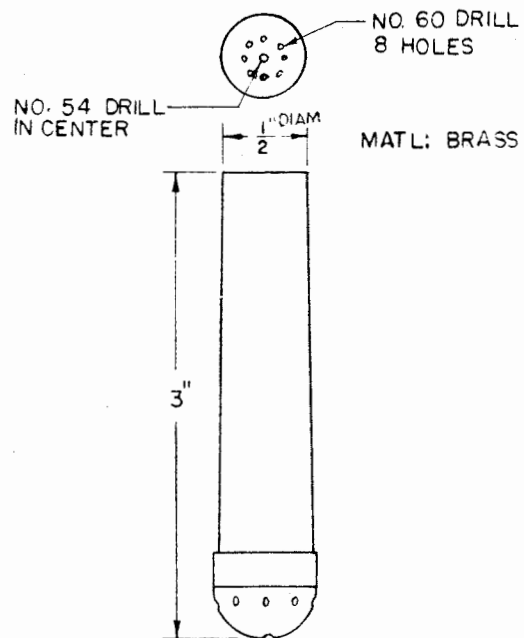

Figure 11-19. Special Torch Tip for Bending Waveguide
d. HOT BENDS.— All waveguide bends that have been described are made with the guide at room temperature. The use of heat when making a bend will allow the bend to be made with less leverage or force. This applies only when making bends where sand has been used as a filler. In Figure 11-19, a special torch tip can be made which will produce a large spread-out flame when used as an acetylene torch tip. This flame can be played over the area that is to be bent or twisted and when the waveguide comes up to a temperature just below annealing (dull-red), it will bend with very little pressure. Wrinkles and puckers will still appear as the waveguide is being bent and it will usually be necessary to smooth these out two to three times before the final bend is completed.